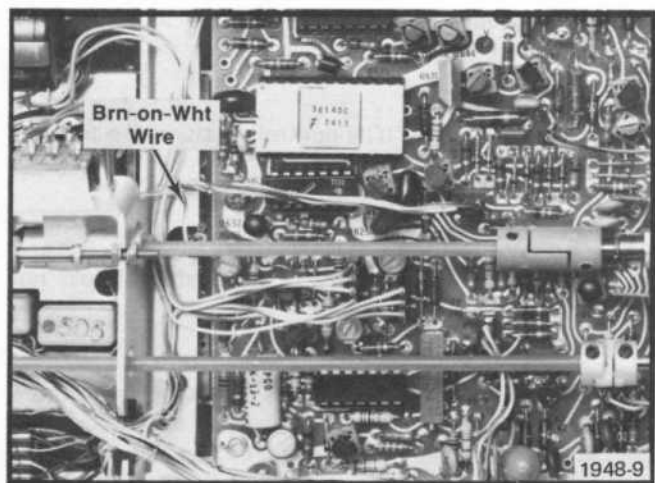

Fig. 5-6. Partial view of Output board showing the V_c input wire and the V_c output pin connector location.
e. Disconnect the 7A13 brown-on-white wire located on the Output board (see Fig. 5-6). This wire disconnects the V_c supply located on the Output board from the V_c input circuit on the Attenuator board but does not disconnect the V_c supply from the V_c OUT 0-10 V jack.